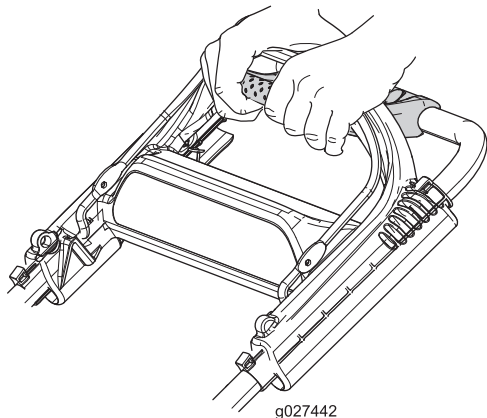

Figure 21
1. Reach forward with your fingertips and grasp the corners of the traction-assist handle (Figure 21).